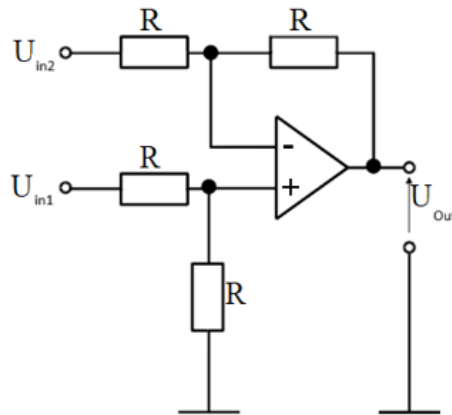

Figure 7: Subtractor circuit
A subtractor circuit can, for example, be built using both inputs of the operational amplifier. Such a configuration is shown in Fig 7.
- M2: Examine the operation of the summing amplifier (Fig 7)! $R_1 = R_2 = R_s = R_v = 1 \text{ k}\Omega$. It is sufficient to sum two voltages ($U_{in1} = U_{in2}$); i.e., the two inputs may be tied together. Perform the measurement for input voltages of 100 mV, 500 mV, and 1 V.